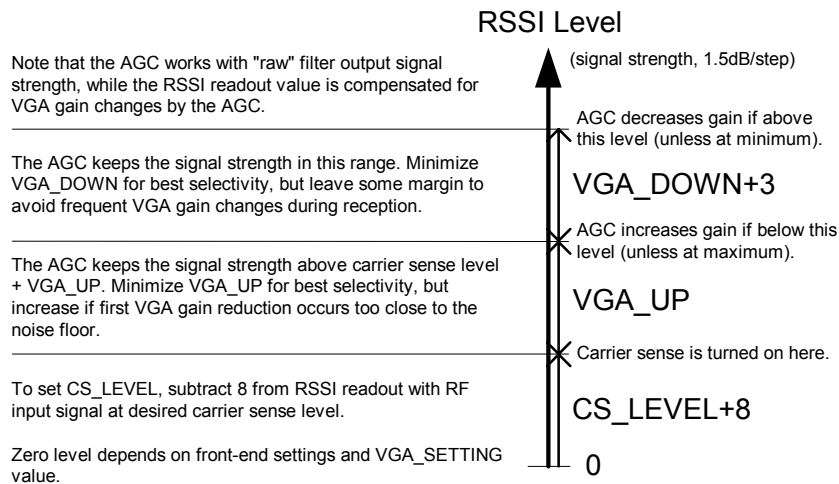

Figure 20. Relationship between RSSI, carrier sense level, and AGC settings CS_LEVEL, VGA_UP and VGA_DOWN
A digital RSSI is used to measure the signal strength after the ADC. The *CS_LEVEL[4:0]* in the *VGA4* register is used to set the nominal operating point of the gain control (and also the carrier sense level). Further explanation can be found in Figure 20.
5. If desired, adjust the VGA_UP and VGA_DOWN settings according to the explanation in Figure 20.
CS_LEVEL[4:0] sets the threshold for this specific *VGA_SETTING[4:0]* value. If the *VGA_SETTING[4:0]* is changed, the *CS_LEVEL[4:0]* must be changed accordingly to maintain the same absolute carrier sense threshold. See Figure 20 for an explanation of the relationship between RSSI, AGC and carrier sense settings.